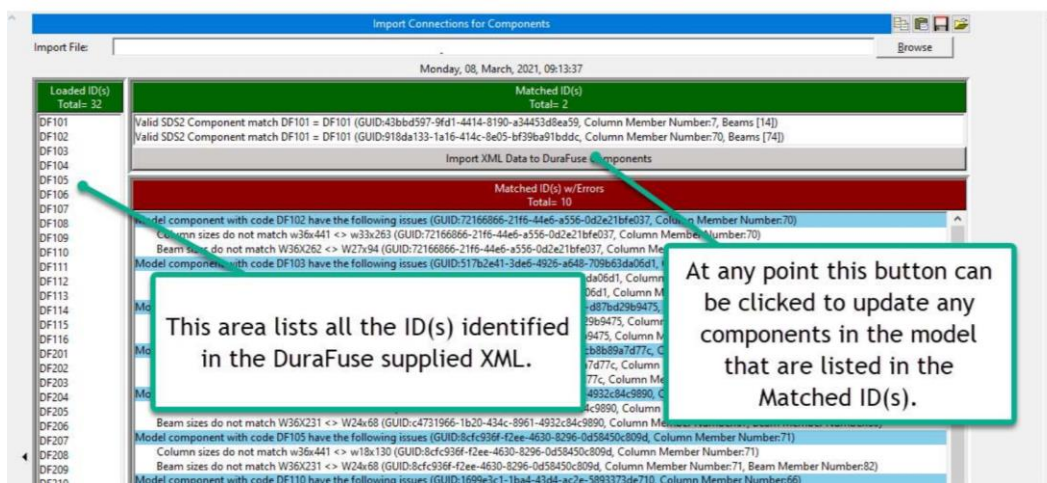

Figure 14. Update the XML and Identified Connection ID's
3. Select the button **Import XML Data to DuraFuse Components** (see Figure 14). This will import all the connection information for each connection ID assigned in the model